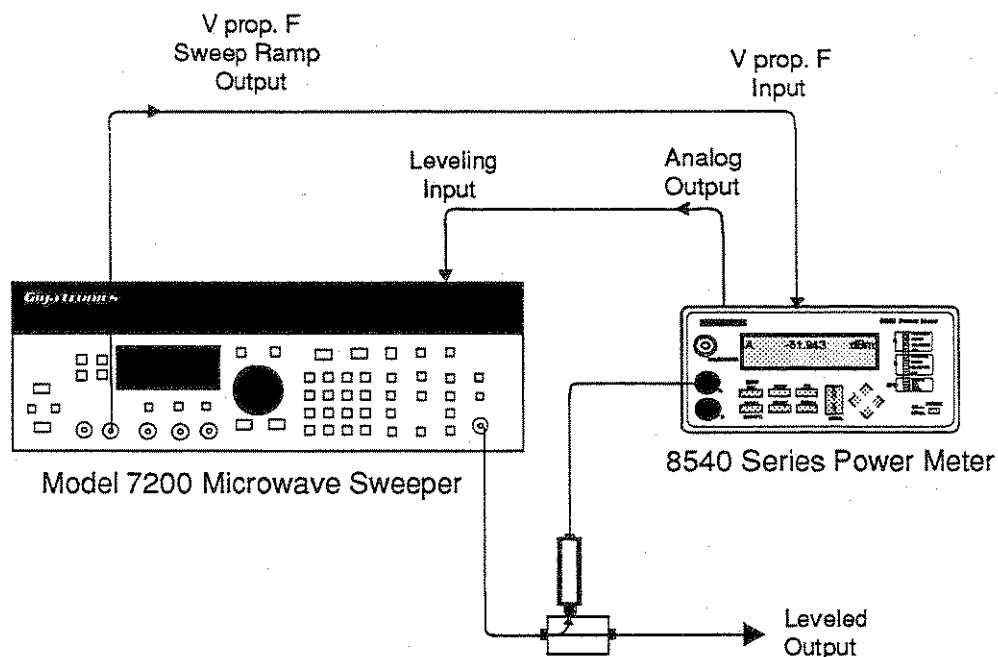

Figure 14. Leveling Microwave Sources
1. Connect the Power Meter and Microwave Sweeper as shown in Figure 14.